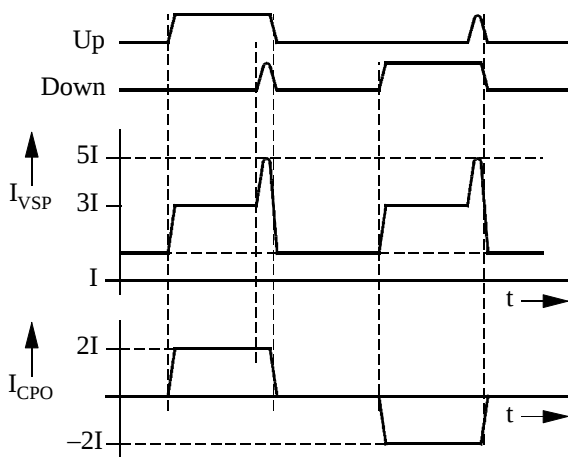
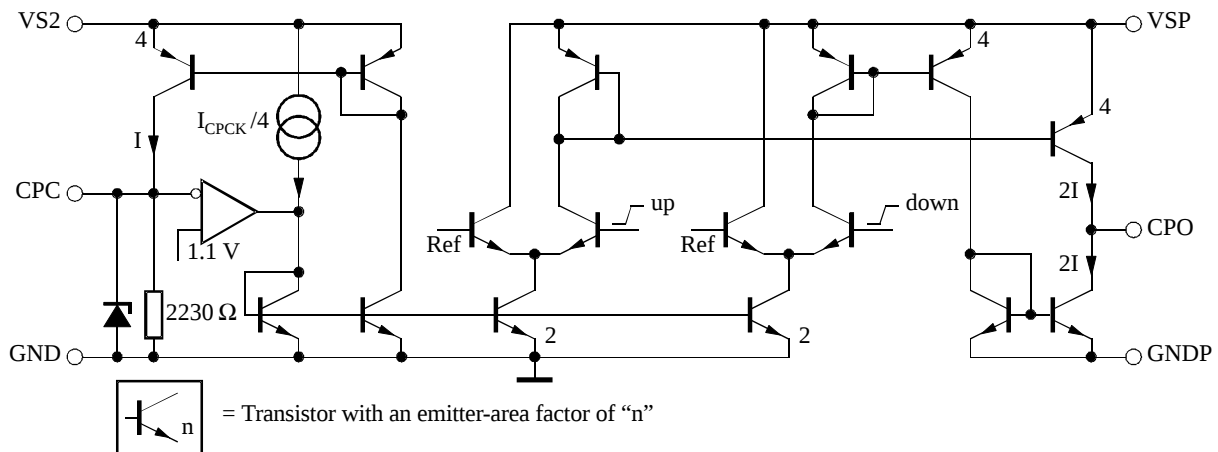

Figure 3. Supply current of the charge pump = $f(t)$
Figure 7. Charge pump
1) Mean value measured with F_{ND} = 151 MHz, F_{RD} = 150 MHz, current vs. time, figure 3.
⁶⁾ − 1 dB compression point (CP − 1) ⁸⁾ See figure 7.
Due to the pulsed operation of the charge pump, the current into the charge-pump supply Pin VSP is not constant. Depending on I (see figure 7) and the phase difference at the phase detector inputs, the current I_{VSP} over time varies. Basically, the total current is the sum of the quiescent current, the charge-/discharge current, and – after each phase comparison cycle – a current spike (see figure 3).